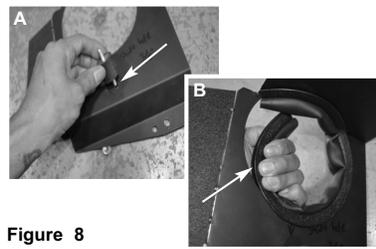

Figure 8
Insert the end of the pipe into the 2.875" hose on the turbo inlet from figure 11. Align the intake bracket to the vibra mount from figure 8 (A)